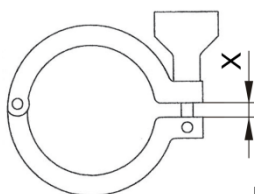

Fig. 1
- ⇒ Mounting of the clamp only in faultless condition (Fig. 1).
- ⇒ Pay attention to gap X and to the parallel position of the side piece (Fig. 1).